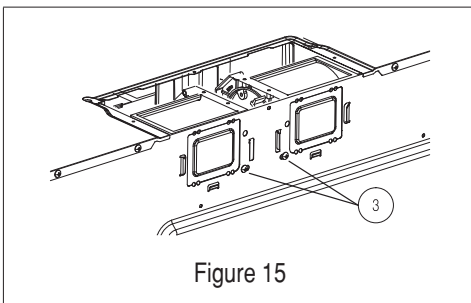

Figure 15
- Place the blower unit into the opening. Secure the case blow fan top, the blower motor and cover to the microwave oven with the screw (1, 2 and 3) from steps 1 and 2. See Figure 15.